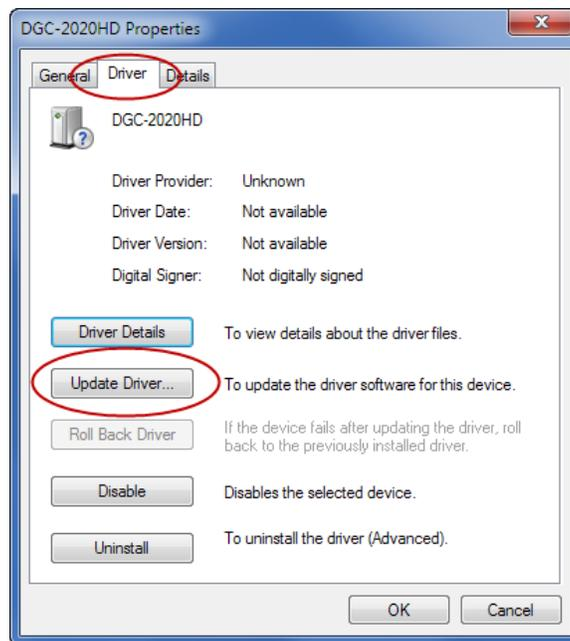

Figure 24-3. DGC-2020HD Properties
Step 3. In the Properties windows, select the Driver tab and click Update Driver. See Figure 24-3.